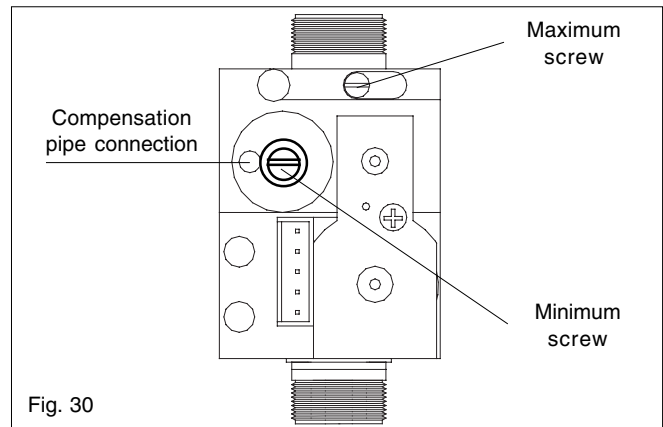

Fig. 30
- Using a suitable screwdriver, very slowly turn the maximum adjustment screw (see fig. 30) – clockwise to decrease, counter clockwise to increase – until the correct value is displayed on the CO² analyser (allow time for the analyser to stabilise).
- Using a 2,5mm Allen key, very slowly turn the minimum adjustment screw (see fig. 30) – clockwise to increase, counter clockwise to decrease - until the correct value is displayed on the CO² analyser (allow time for the analyser to stabilise).